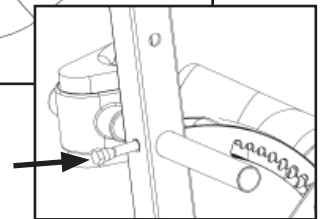

Figure 16
- Insert the Bolt (IA-1116) to secure the Rear Bar to the Main Shaft, and attach the nut with the wrenches (F5-1088) provided (Figure 16).